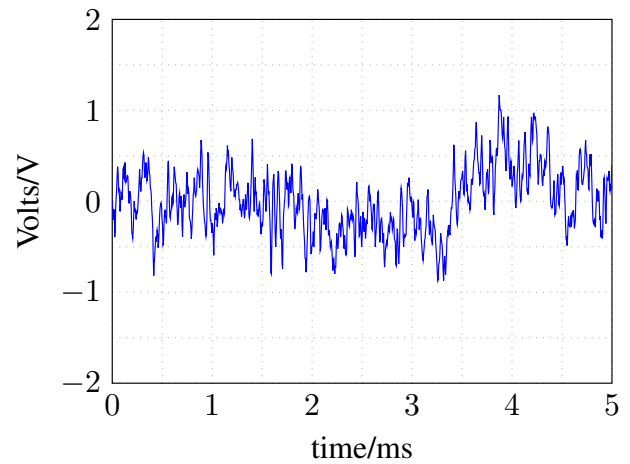

Fig. 47: Pink noise observed on PNK. The signal amplitude was adjusted on TR7 while utilizing the VU meter.
3. Adjust TR7 for a solid illumination of the yellow LED on the VU meter. The red LED might flicker up once in a while. The oscilloscope will indicate pink noise (Fig. 47).